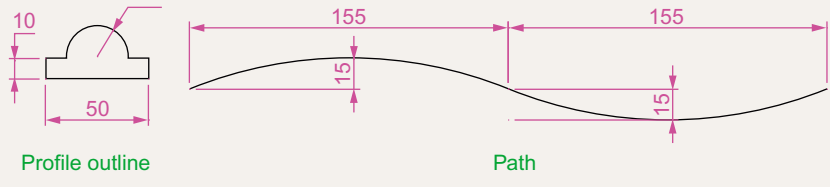
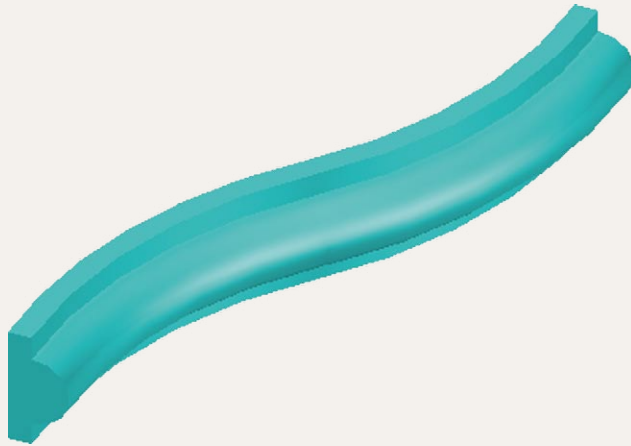

Fig. 12.52 Exercise 9 – profile and path dimensions
Fig. 12.53 Exercise 9
9. Working to the polylines shown in Fig. 12.52 construct the **Sweep** shown in Fig. 12.53.